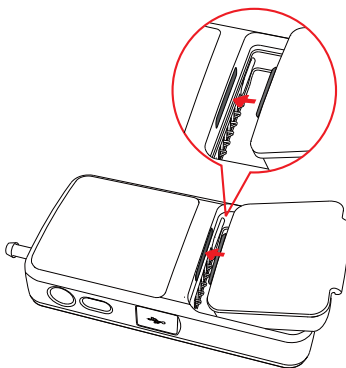

Figure 3-2 Align the Raised Tab on Battery Pack
- ◆ If lithium-ion battery is used, align the raised tab on the upper part of the lithium-ion battery pack with the cutout in the base of the battery compartment, as indicated in Figure 3-2.